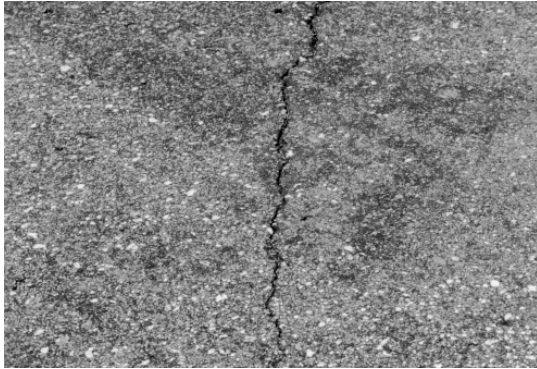

FIGURE 30
14) Generally speaking, the majority of random crack patterns follow a predominantly straight line with no more than 20° variance from an imaginary center line. FIGURE 30. These random crack patterns are easily sawed to the required widths and depths by the properly described diamond blades.